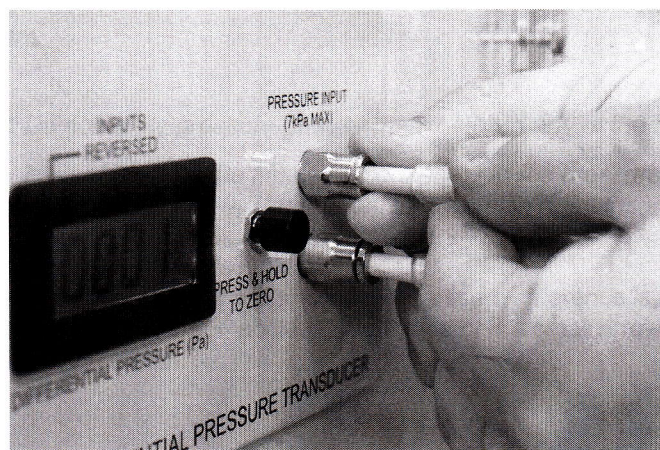

Figure 7 Push and hold the pressure socket to remove the pipe connection
6. To remove the pipe connection, push and hold the collar on the pressure socket, pull the pipe and adaptor from the socket (see Figure 7).